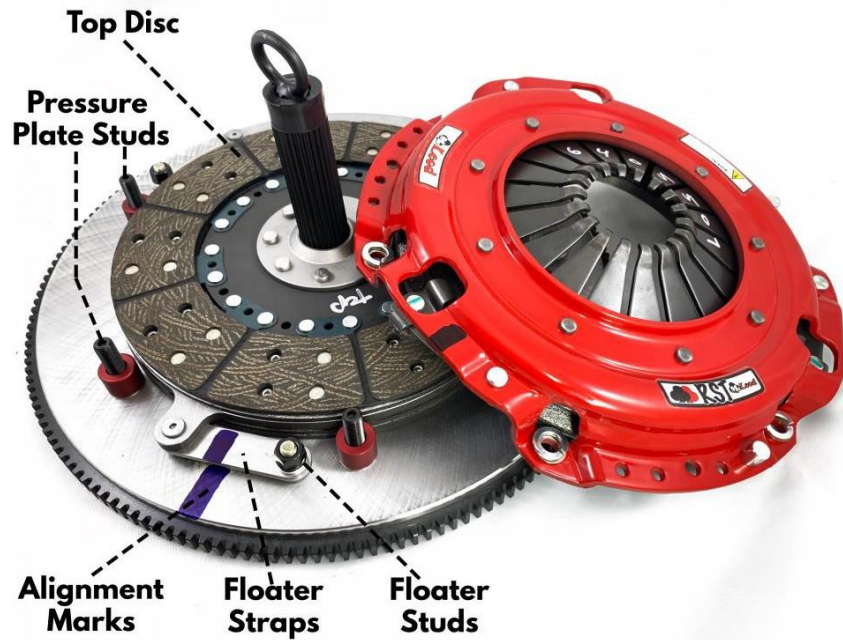

Figure 2
- 3) Remove top disc and alignment tool. Notice “Flywheel Side” on the disc center. See Figure 2